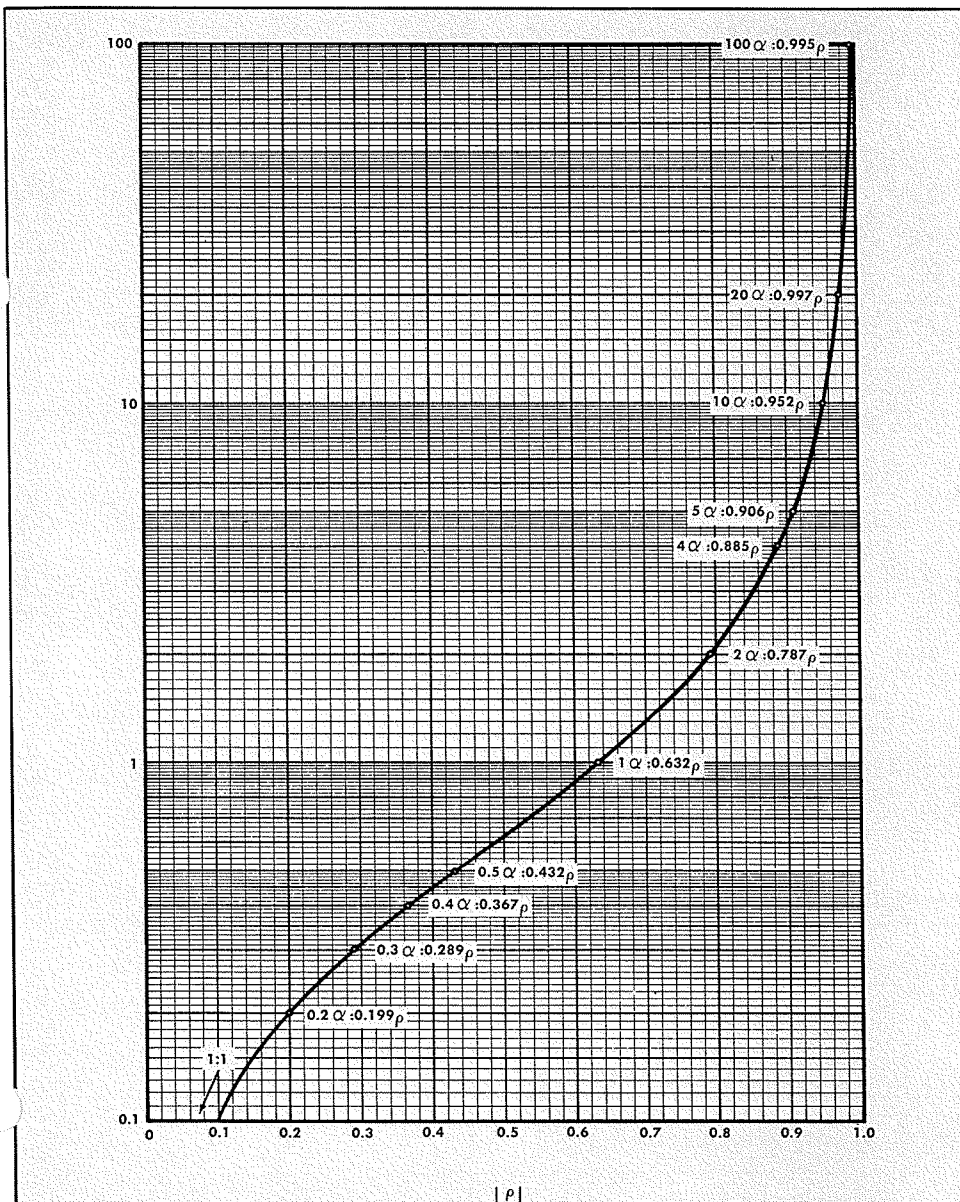

Fig 14. Graph for conversion of small reactance observed ρ to α for use in formulae (10) and (12).
where L is in henries, Z_0 is in ohms, t_r is the system 10% to 90% risetime in seconds, and α is a dimensionless coefficient related to the observed reflection coefficient ρ by either the graph or Fig 14, or formula (11).
The waveform of Fig 15B has an observed deflection coefficient of $+0.58$. From the graph of Fig 14, 0.58ρ is equal to 0.82α . The risetime of the system was found to be 160 ps by disconnecting the insertion unit in which the inductor was located and measuring the reflection signal risetime. These figures placed into formula (11) give a value for the series inductor of 16.4 nH ($1.64 \times 10^{-8} \text{ H}$). This correlates very well with the previous parallel measurement.
Calculations made from Fig. 18A and B using formula (11) and the curve of Fig 14,